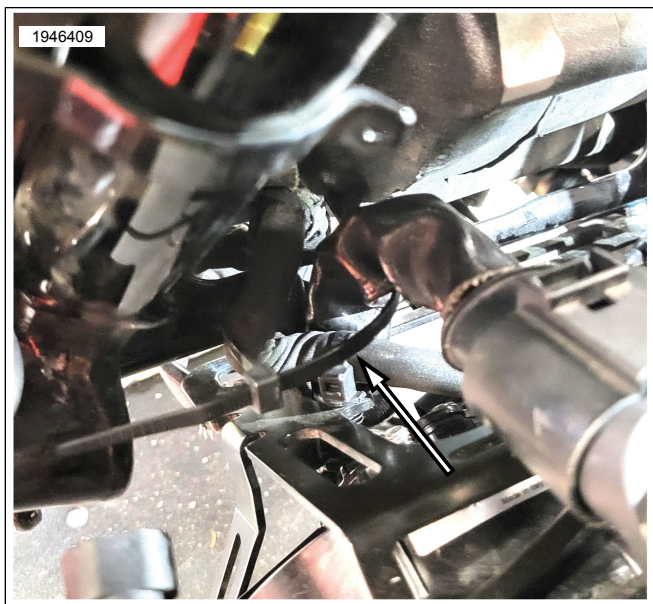
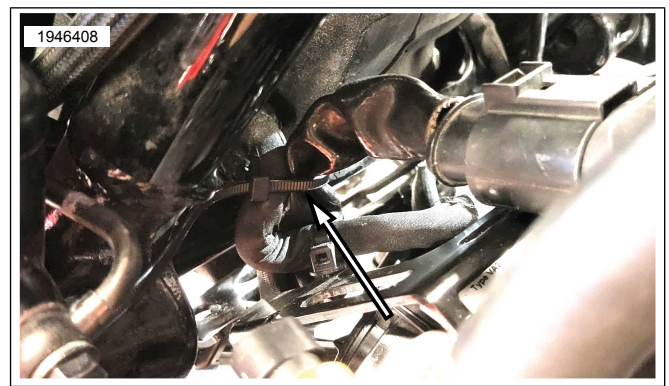

Figure 3. Loose Cable Strap
Figure 4. Tight Cable Strap
2. See Figure 3 and Figure 4. Secure voltage regulator harness into position with cable strap.